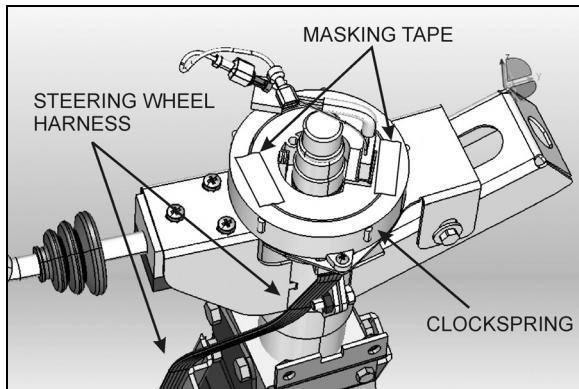

FIGURE 11: LOCKING THE CLOCKSPRING IN PLACE
- Once the steering wheel is removed, it is important to block any rotating movement of the clockspring in order to prevent it from losing its neutral position. Use two pieces of masking tape to lock it in place (Fig. 11).